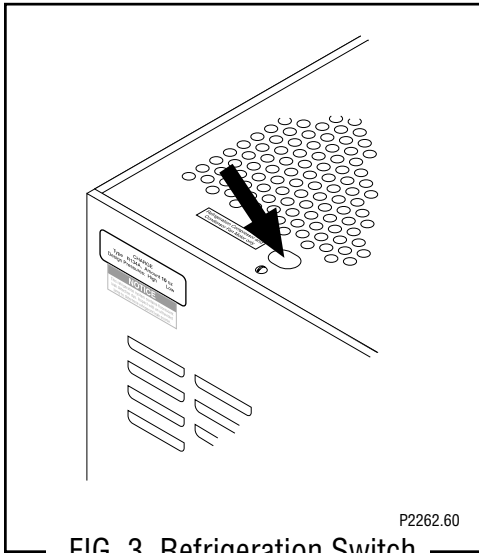
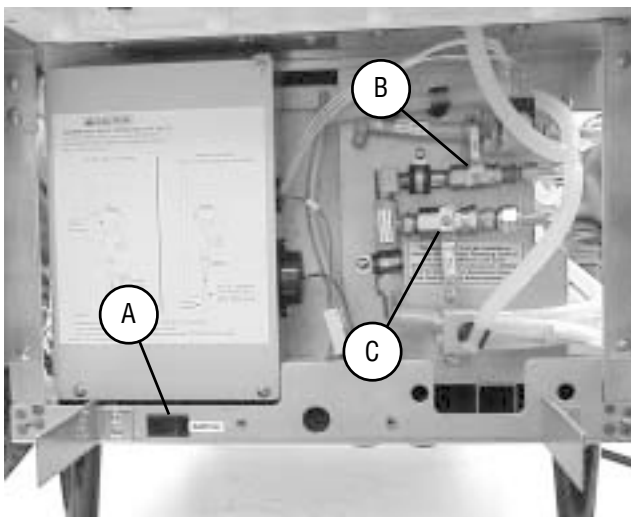

FIG 3 Refrigeration Switch
FIG 4 Sanitize Switch & Water Valves
3. Ensure that the Main Water Valve and the Water Bath Valve Fig 4, are turned off (handles positioned at 6 o'clock and 12 o'clock, respectively,) and that the Refrigeration Switch Fig 3, is in the OFF (rear) position.